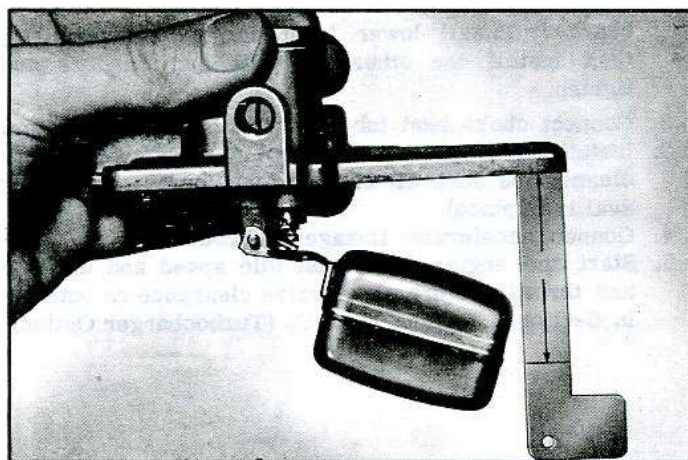

Fig. 32—Measuring Float Drop
- Measure the distance between cover gasket surface and seam of float at free end (fig. 32). This **FLOAT DROP** dimension should be  $2-3/8" \pm 1/16"$ .